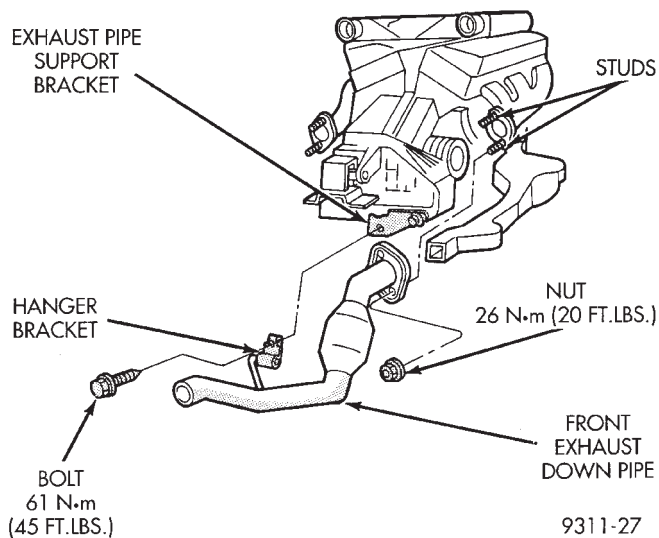

Fig. 5 Front Exhaust Down Pipes Connection
- (1) Raise vehicle on swing arm hoist.
- (2) Apply penetrating oil and remove the front down pipes to exhaust manifolds nuts (Fig. 5).
- (3) Apply penetrating oil and remove the front down pipes to transmission intermediate support bracket bolts.